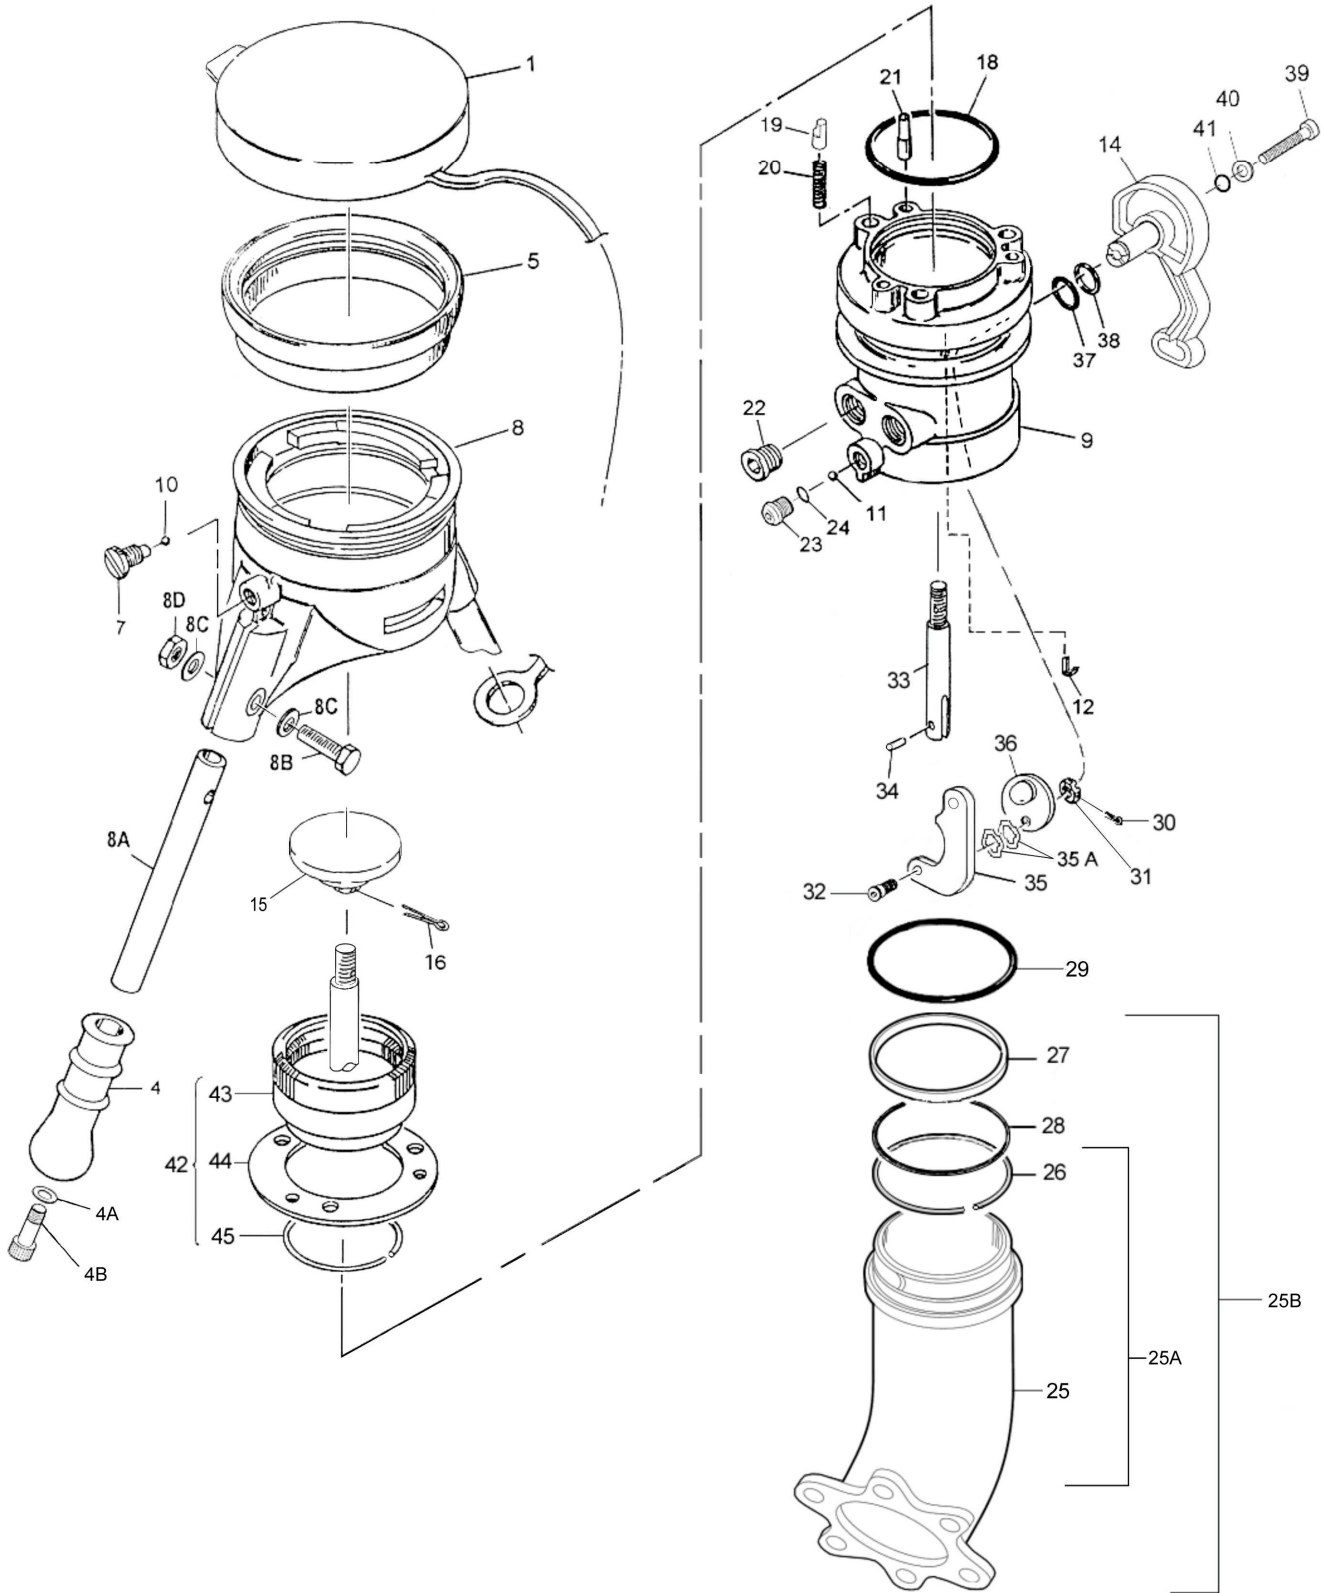
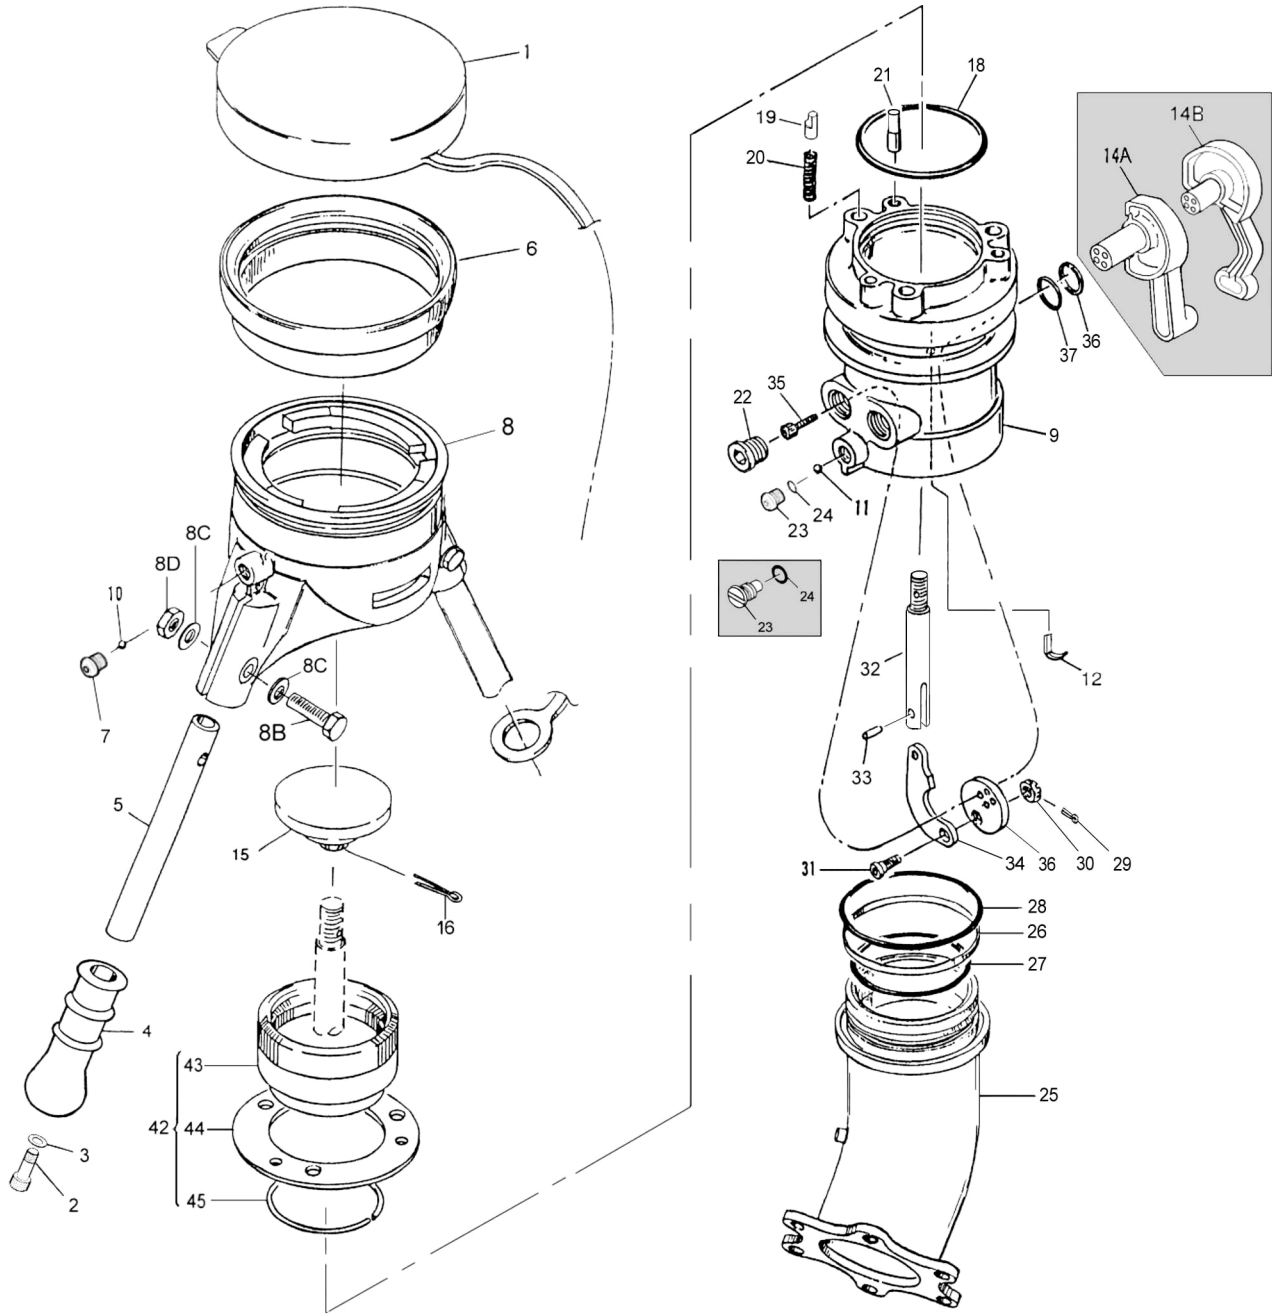

FIGURE 1
FIGURE 3
Previous Nozzle Configuration (Figure 3)
2. There have been three item 14 On/Off Actuating Levers used on the 64349 Nozzle. Item 14, replaces the previously used items 14A and 14B. Several other parts are needed to replace (14A) or (14B) and are furnished with KD64349-2 and KD64348-12. Neither (14A) or (14B) are available, they will automatically be replaced by KD64348-12.
3. The MS29512-03 O-ring (24) is used with Screw (23) 220484. This is available as an assembly (and is more economical to order as such) as part number KDT-1191. If Screw (23) 209827 is to be replaced do so with KDT-1191. O-ring (24) MS29513-013 is used with the older Screw (23) 209827 only.
4. Item (26), Wear Ring, has been included as a design improvement in newer versions of the nozzle to improve the life of the swivel. Older Elbows (25) without the Wear Ring (26) are fully interchangeable with the newer ones. The older Elbow (25) in Figure 3 is no longer available for procurement. When ordered item (25) from Figure 1 will be supplied.